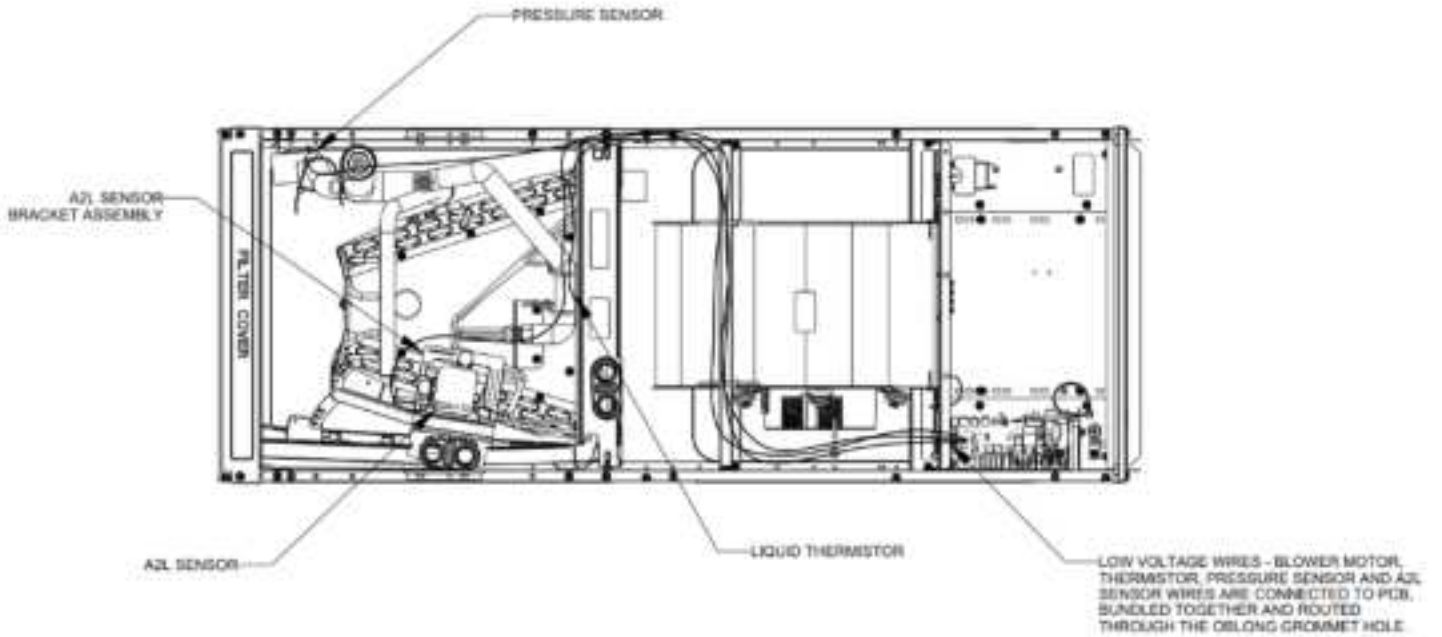

Figure 6
NOTE: For CMXV* only: If installing a filter, an external filter must be used when installing the unit in Horizontal Right (Figure 6), or if the side drain pan is not removed for downflow application. A filter will not fit on the internal filter rails in these applications.
5. Reroute the wire harnesses shown in Figure 3 (Downflow) and Figure 6 (Horizontal Right), secure with wire tie 1 and 2 shown in Figure 3, connect sensor wires (Thermistor Wire Harness, A2L Sensor Wire Harness, and Pressure sensor Wire Harness) with wire harnesses connectors connected to PCB and secure bundled wires after the installation with a Wire Tie according to the requirement of the wire lengths.
4. Put A2L sensor bracket assembly to the side drain port correctly as shown in the figure 6. The "FRONT 0121A*****" print on sensor bracket should be in the front
6. Sensor wiring should be rerouted as shown in Figure 6.